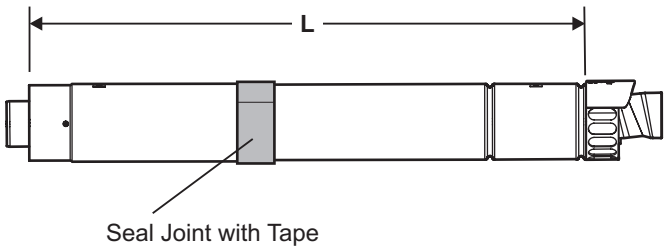

Fig. 4.7
- Determine the overall length (L) of flue required, (see Fig. 4.7) as follows:-
- Rear flue $L = \text{wall thickness (B)} + 60 \text{ mm}$ (105 mm if the wall jig is used)
- Side flue $L = \text{wall thickness (B)} + \text{distance between boiler and wall (C)} + 145 \text{ mm}$